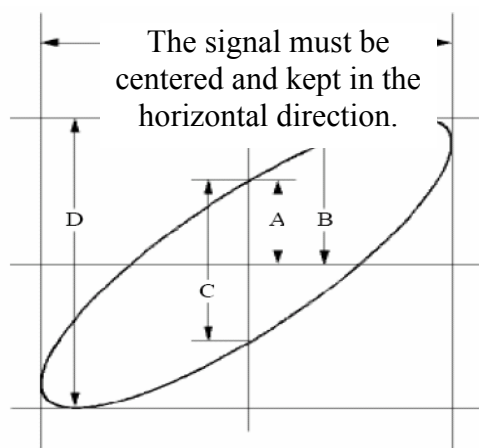

Fig.61 Lissajous Graph
3. Press **DISPLAY** to activate **DISP SET** menu, then F3 to select XY mode. Now the waveform is displayed as **Lissajou's curve**, adjust **VOLTS/DIV** and **VERTICAL POSITION** to get the best possible display, work out the phase shift as in Fig.61.